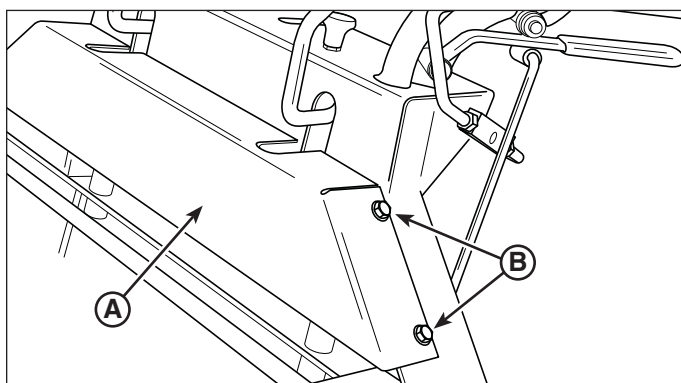

Figure 1. Removing the Handle Bar Cover
2. Remove the four (4) 5/16-18 X 3/4" bolts (**B, Figure 1**) that secure the handle bar cover (**A**) and remove the cover from the unit.